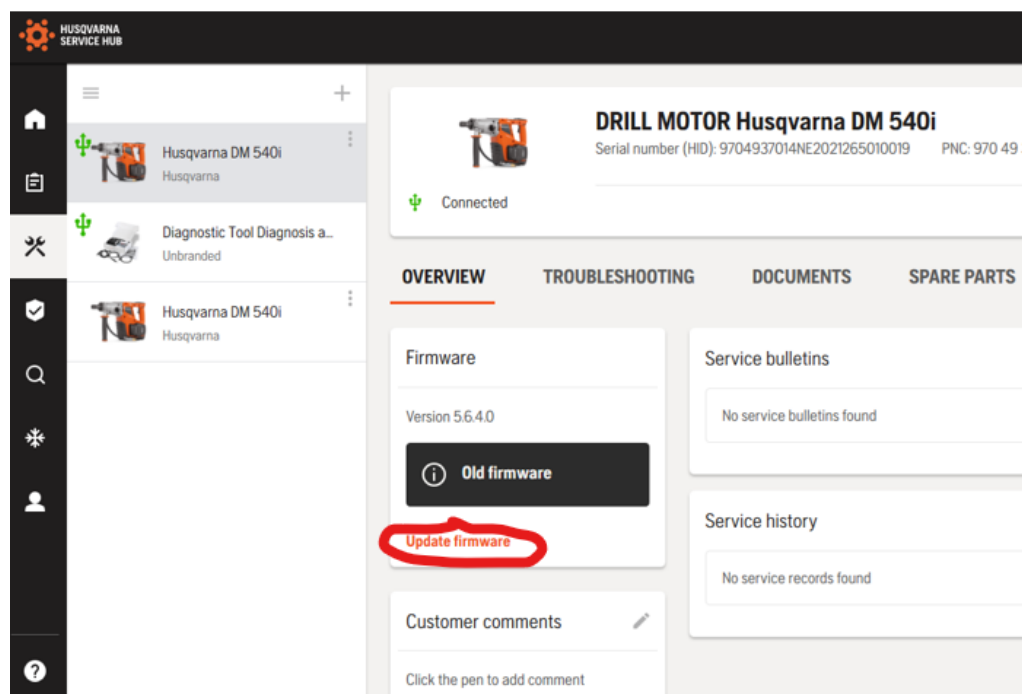

Figure 1:
3. Click on "Update Firmware" (figure 1) and follow instructions.